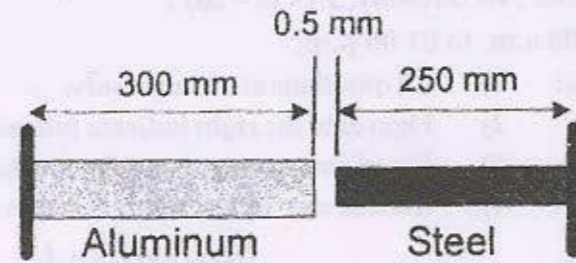

Fig. 2
- b) Construct the influence line diagrams for reaction at A and moment at A of the compound beam shown in fig. 2.
- b) At room temperature (21° C) a 0.5 mm gap exists between the ends of aluminum and steel rods of lengths 300 mm and 250 mm respectively as shown in Fig. 2. When temperature is reached 160°C, determine normal stress in aluminum bar and change in length of aluminum bar. [13]